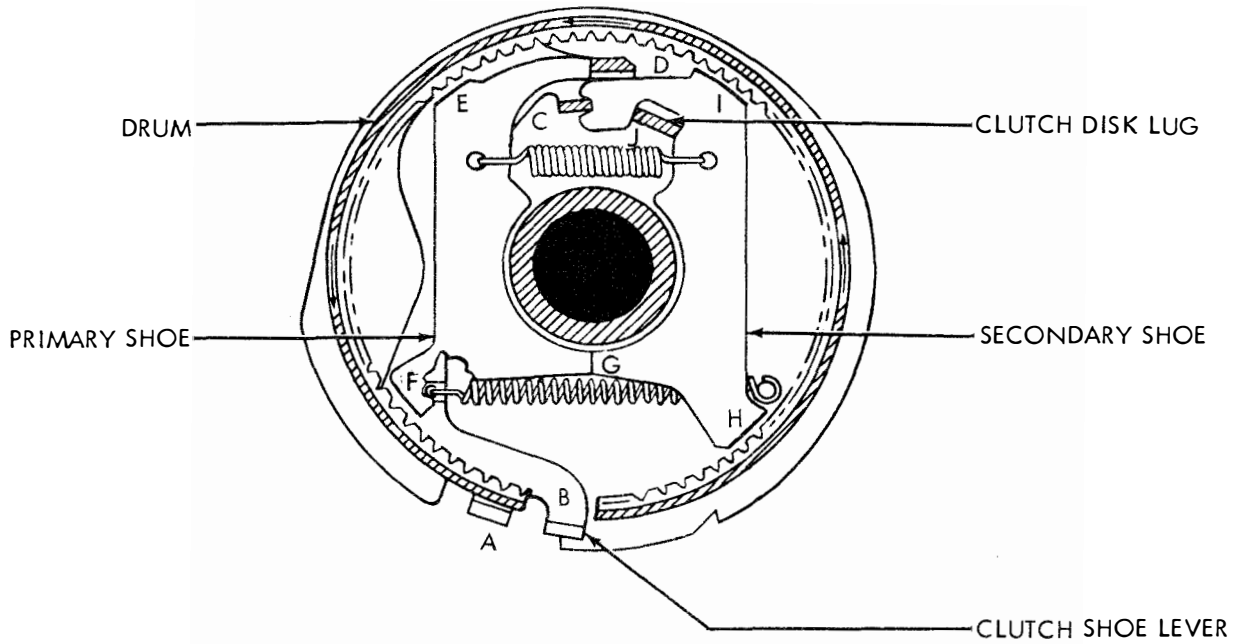

Figure 20A - Clutch - Engaged
2.26 Figure 20A is accomplished by releasing the lower end of lever B. The upper end of lever B pivots about its ear C (which bears against the upper end of the secondary shoe) and moves its ear D, and the upper end of the primary shoe, toward the left until the shoe makes contact with the drum at point E. As the drum turns counterclockwise, it drives the primary shoe downward, so that it again makes contact with the drum, this time at point F. There, the combined forces acting on the primary shoe cause it to push against the secondary shoe at point G. The lower end of the secondary shoe then bears against the drum at point H. The revolving drum acts to drive this shoe upward so that it again makes contact with the drum at point I. Since the forces involved are multiplied at each succeeding step, the final force developed at point I is very great. This force is applied to the lug J on the clutch cam disk to cause it to turn in step with the drum. The cam disk on the clutch is connected to the cam shaft imparting rotary motion to the cam assembly.